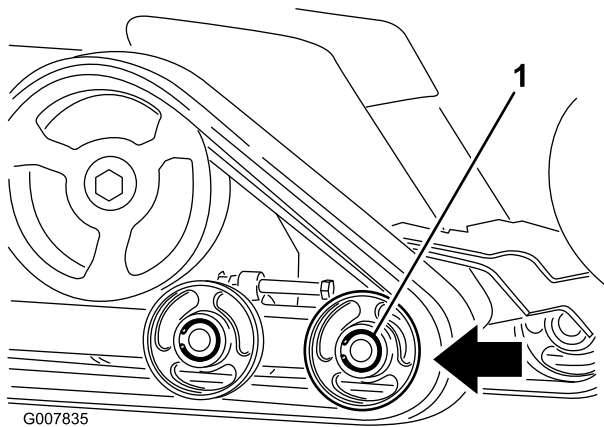

Figure 48
6. Push the front road wheel rearward as far as it will go (Figure 48).
8. When the track is off of the road wheel, remove it from the machine (Figure 48).
9. Beginning at the drive sprocket, coil the new track around the sprocket, ensuring that the lugs on the track fit between the spacers on the sprocket (Figure 48).
10. Push the track under and between the rear and center road wheels (Figure 48).